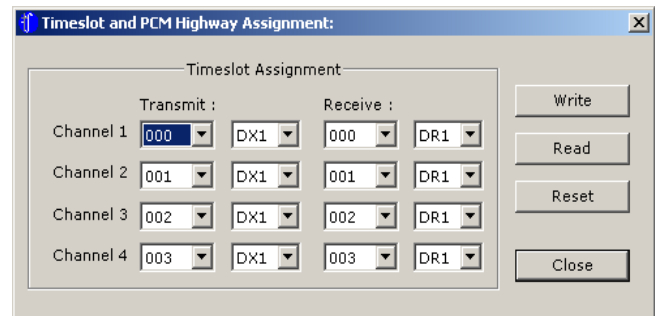

FIGURE 10. TIMESLOT & PCM HIGHWAY ASSIGNMENTS
4. From GCI Software screen, in the GCI General Setting section, select Linear mode. This will enable you to select Time Slot. Click on the Time Slot button. The Time slot and PCM Highway Assignment screen will appear (Figure 10).
This test will demonstrate an end to end phone conversation between Channel 1 and Channel 2. Setting up an end to end phone conversation is accomplished with the Timeslot and PCM Highway Assignment screen (Figure 10). The user can select any time slot for Channels transmit and receive. If the time slot assigned to the receive path of Channel X is the same one assigned to the transmit path of Channel Y, and the time slot assigned to the transmit path of Channel X is the same one assigned to the receive path of Channel Y, then Channel X and Channel Y can communicate with each other.